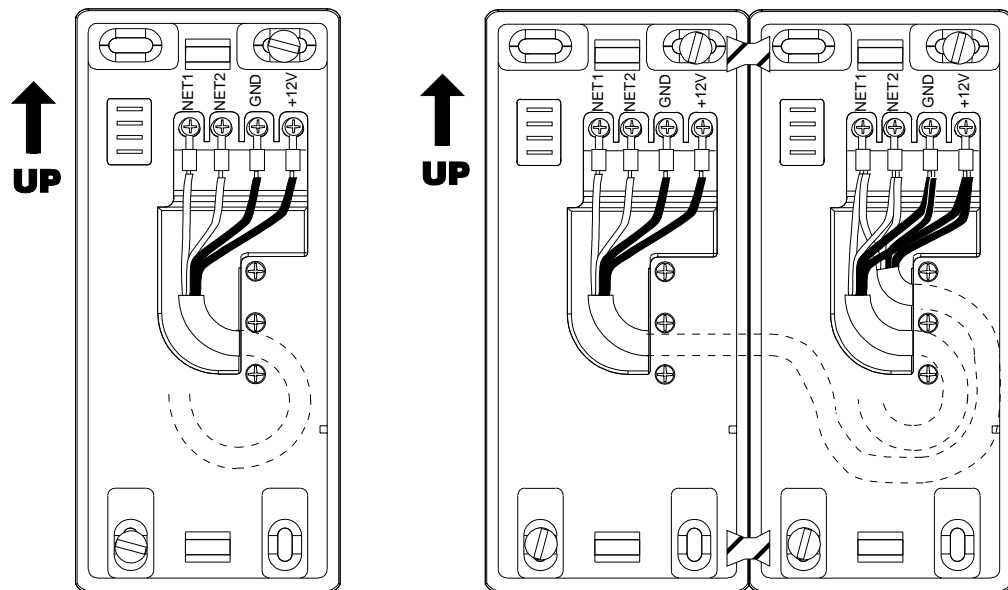

Figure 9. Wall Position – Vertical Assembly
5. Fasten the cable crimp to the contacts in the direction shown in Figure 9.